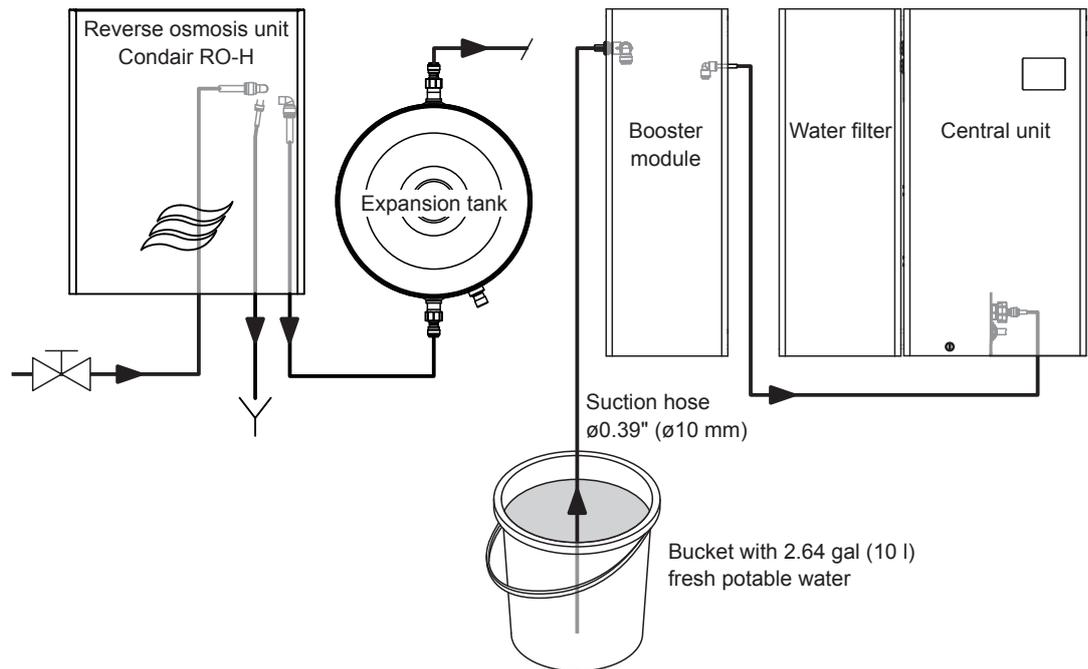

Fig. 74: Schematic diagram of the hose layout for flushing of MN single systems with RO-HB
- Immerse the suction hose $\varnothing 0.39''$ ($\varnothing 10$ mm) in the bucket with the fresh potable water (see Fig. 74).